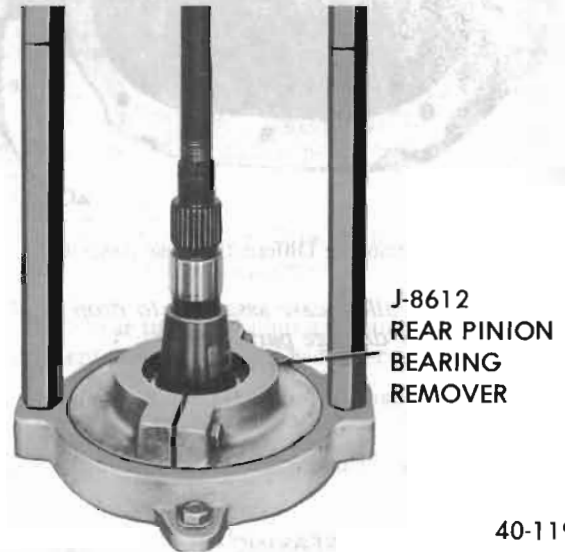

Figure 40-125 - Removing Rear Pinion Bearing
5. If rear pinion bearing is to be replaced, remove rear pinion bearing from pinion shaft using Remover J-8612 on 8 1/2 inch ring gear axles or Remover J 9746 on 9 3/8 inch ring gear axles with Holder J-6407. See Figure 40-125.